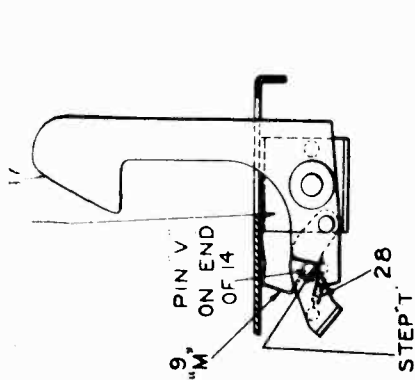

FIG. 3--RECORD DISCRIMINATOR
- (c) Adjust Broadcast Oscillator Trimmer (Illus. C., Fig. 3 & 4) while rocking gang condenser back and forth through the signal until maximum output is obtained.
- (d) Adjust the short wave oscillator trimmer (Illus. D., Fig. 3 & 4) for maximum output. If two peaks are obtained use high frequency (minimum capacity) peak.
- (e) Adjust short wave antenna trimmer (Illus. E., Fig. 3 & 4) while rocking gang condenser back and forth through the signal until maximum output is obtained. If two peaks can be obtained use low frequency (maximum capacity) peak.